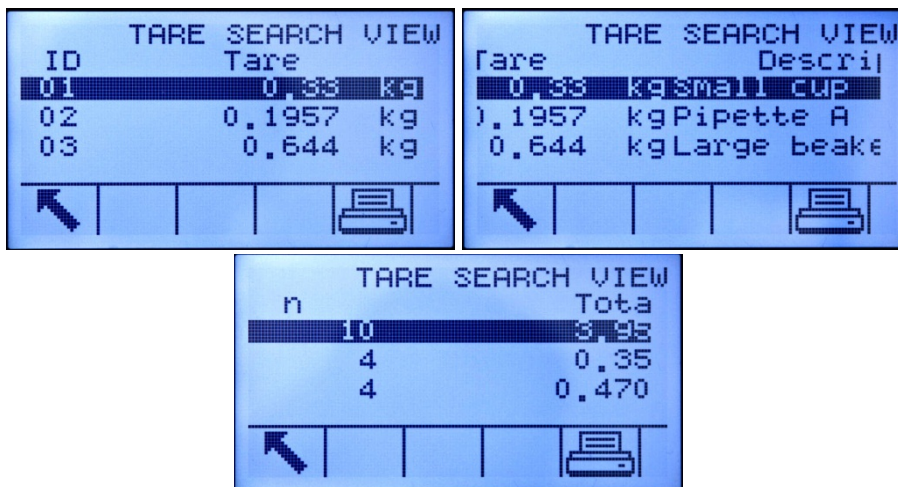

Figure 2-23: Tare Table Search Results
- d. Press the SEARCH softkey  to view the limited data in the table. Search result records are always listed in order by ID (lowest to highest ID numbers). Use the arrow keys to scroll left and right to view additional columns. Figure 2-23 is an example of search results for a Tare Table, with a series of views showing all available columns of data.